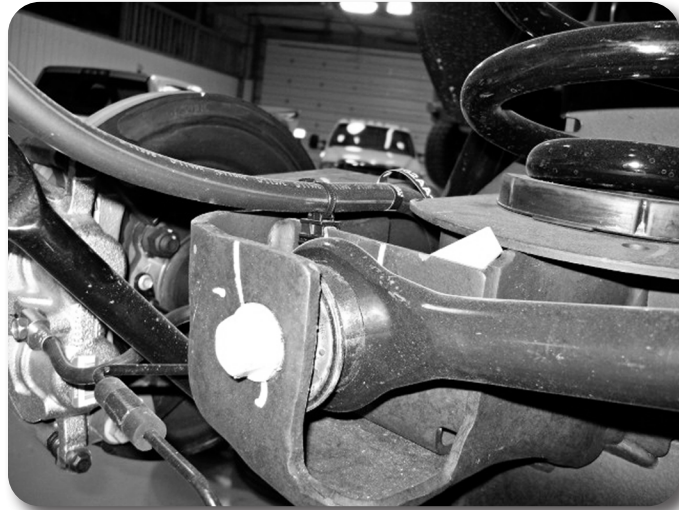

Figure 1
2. Disconnect the rear trackbar from the axle, retain all hardware. Fig 1